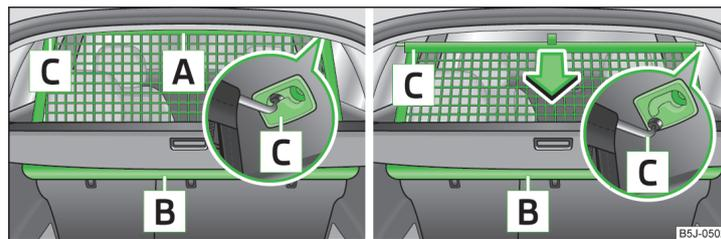
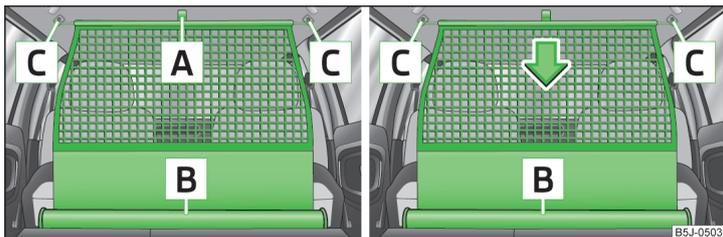

Fig. 70 Extending/retracting the net partition
Fig. 71 Extending/retracting the net partition
- Make sure that the transverse rod is inserted into the mounts **C** » Fig. 70 on page 73 or » Fig. 71 on page 74 in the forward position.
- › Pull the net partition by tab **A** » Fig. 70 out of the housing **B** in the direction of mounts **C**.
- › Pull the transverse rod back slightly first on one side and then on the other and remove it from the mounts **C** » Fig. 70.
- › Pull the net partition by tab **A** » Fig. 71 out of the housing **B** in the direction of mounts **C**.
- › Pull the transverse rod back slightly first on one side and then on the other and remove it from the mounts **C** » Fig. 71.